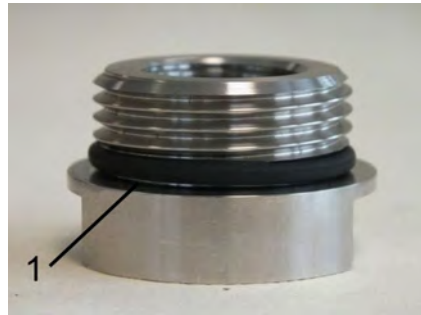

Fig. 51: Properly positioned O-ring
1. Carefully install the O-rings (Fig. 50/2) with the aid of the O-ring installation tool (Fig. 50/1) onto the process connections (inlet and outlet), so that they are properly seated in the O-ring grooves of the process connection (Fig. 51/1). When doing so, be careful not to overstretch the O-rings.
2. Position the O-ring properly on the process connection (Fig. 51/1)